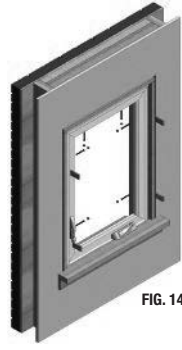

FIG. 14
- B) Appropriately shim the window to obtain a level and square window with uniform frame dimensions. (Fig. 14) **Note: Place a shim behind each installation screw hole and at the center on each side.** Using the 2" pan head screws, screw the retro fit vinyl window to the existing frame. Install the provided hole caps. Removing the sash(es) may be required.